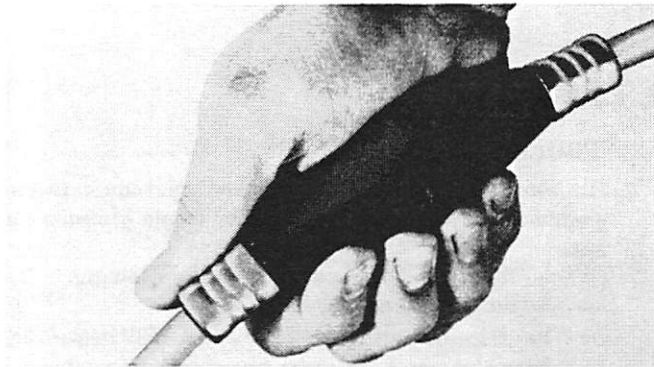

Figure 6. Priming Vacuum Fuel System
2. Priming on new vacuum tanks (6 gal. and 3¼ gal.) (22.7 and 12.3 liters) is done by squeezing primer bulb on fuel line. (Figure 6)
3. Carburetor is filled with fuel by slowly actuating primer bulb on fuel line. (Figure 6) When fully primed, pressure will be felt on bulb.